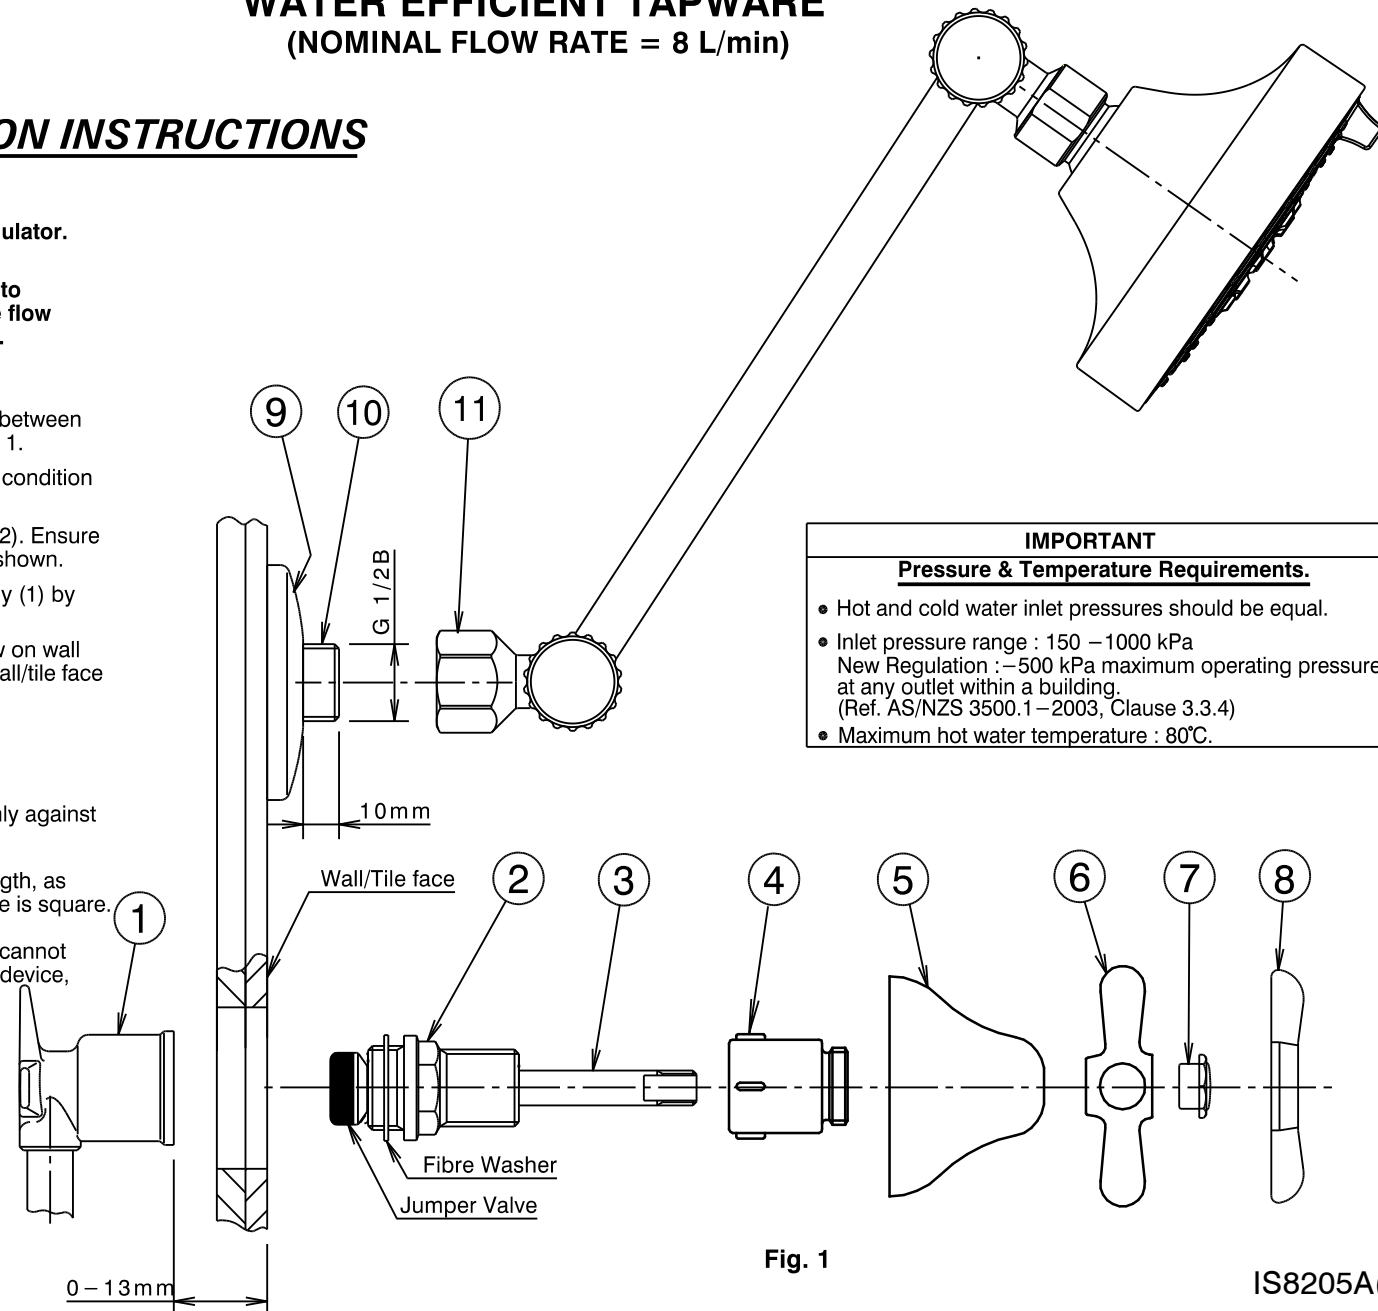

Fig. 1
- 1) Check that the face of the recess tap body (1) is between 0–13mm from the wall/tile face, as shown in Fig. 1.
- 2) Check seats in recess tap bodies (1) are in good condition and free of foreign materials. Reseat if required.
- 3) Fully open tap spindle (3) in tap head assembly (2). Ensure fibre washer and jumper valve are in position as shown.
- 4) Screw tap head assembly (2) into recess tap body (1) by hand and tighten using suitable tube spanner.
- 5) Screw flange (5) onto plastic insert (4) then screw on wall the assembly and tighten fully by hand against wall/tile face taking care not to damage the decorative finish.
- ii) Fit handle (6) directly onto spindle (3).
- iii) Screw button (7) onto spindle (3) and tighten firmly against handle (6), using spanner (8) provided.
- 7) Check that threaded nipple (10) is the correct length, as shown. Cut to length if required ensuring end face is square. Apply thread tape to the thread.